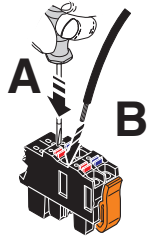

Figure 5-6 Connecting a flexible conductor
- Open the spring by pressing on the spring lever with a screwdriver (A in Figure 5-6).
- Insert the conductor into the terminal point (B in Figure 5-6).
- Connect the power supply to the supply connector as shown in Figure 5-5 and in Figure 5-6. Note the information in Section 5.2.3.